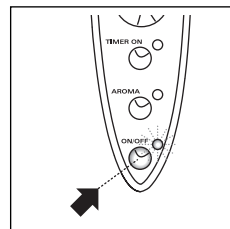

fig. 9
- Press the "ON/OFF" switch (Fig. 9). The ON pilot light next to the switch indicates that the coffee maker is in operation.